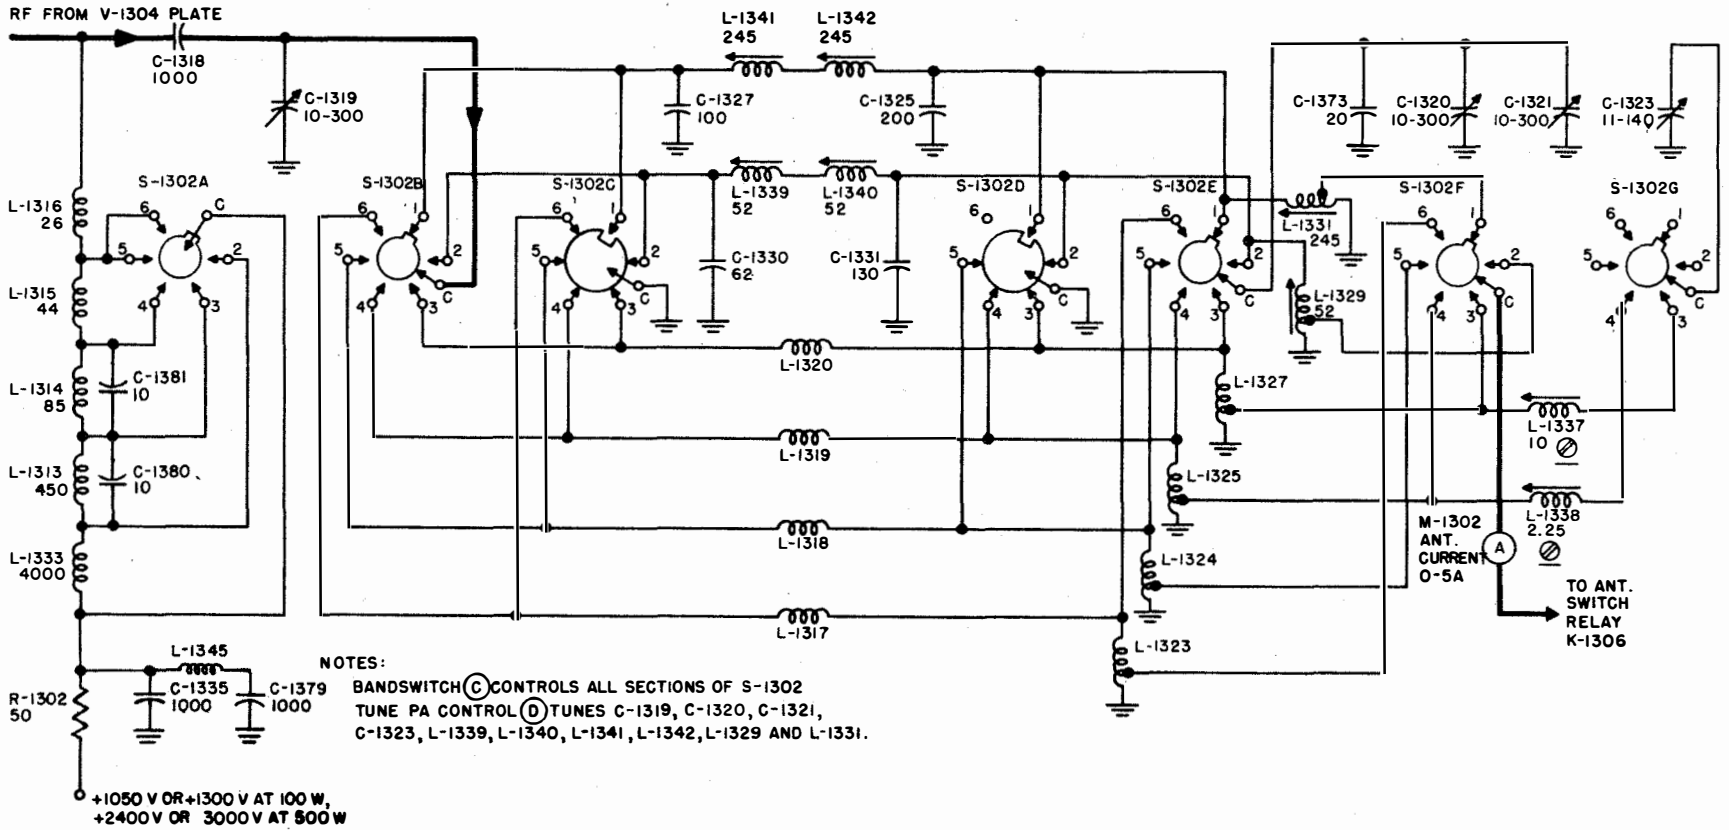
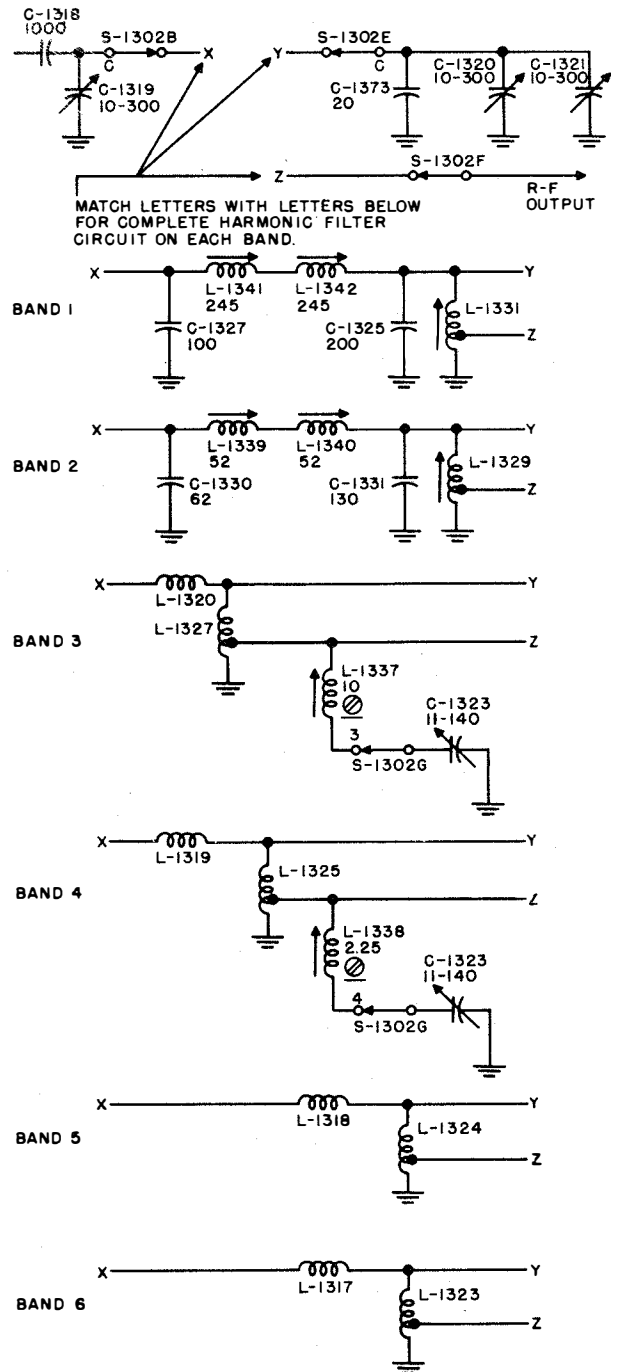
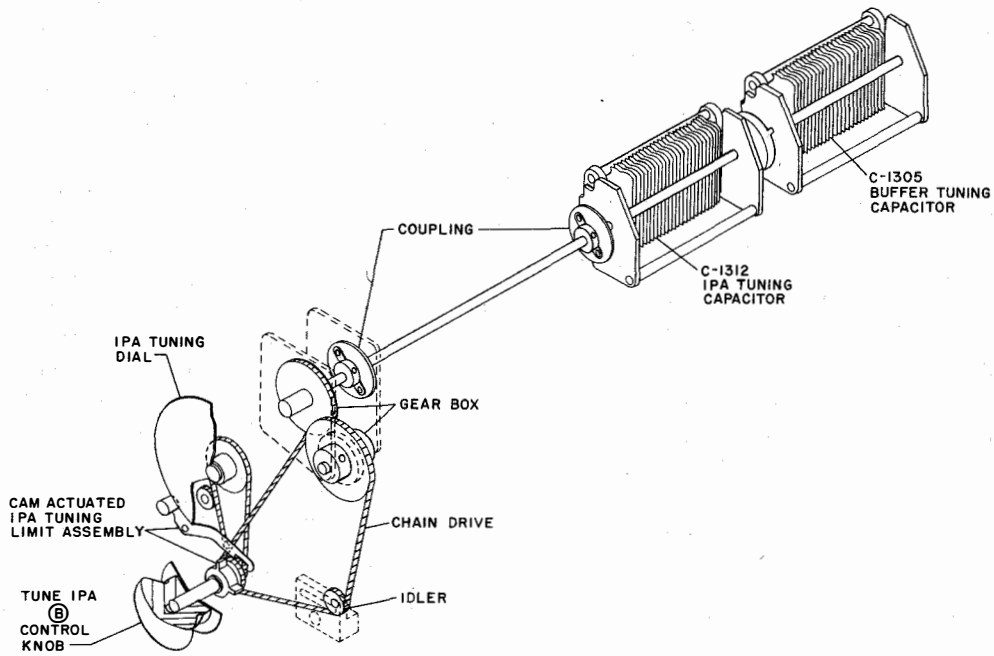

Figure 2-101. PA Harmonic Filter, Complete Schematic
Figure 2-102. PA Harmonic Filter, Simplified Schematic
Figure 2-106. Buffer-IPA Tuning, Mechanical Linkages
(4) PA HARMONIC FILTER.—The output circuit of the power amplifier, V-1304, is essentially a harmonic filter (figures 2-101 and 2-102). The components of this filter are determined by the setting of the bandswitch, S-1302, which is ganged to the IPA buffer bandswitch, S-1301, both of which are set by the BANDSWITCH control (C). Bandswitch S-1302A selects the r-f chokes in the PA plate supply circuit. To keep the signal level constant for all frequencies, more inductance is required at the lower frequencies; therefore, on band 1, all the chokes, L-1333, L-1313, L-1314, L-1315, and L-1316, are connected in series in the PA plate circuit. On band 2, L-1333 is shorted. On band 3, L-1313 and L-1333 are shorted, etc., until, on bands 5 and 6, only L-1316 is in the circuit. Switch sections S-1302B and S-1302E select the required tuning inductors, while S-1302C and S-1302D short out the unused tuning inductors. Switch section S-1302E also selects the required antenna matching inductor and connects tuning capacitors C-1320 and C-1321 in parallel with it. Switch section S-1302F couples the output from the impedance matching network to the load adjusting unit. Section S-1302G adds additional impedances to the antenna matching inductor in bands 3 and 4 to form the correct matching network. The effect of the various selections of switch S-1302 is to produce a pi-section filter and output impedance matching network. Figure 2-102 shows the make-up of the filter and matching network for each of the six bands. After the proper components of the filter have been selected, the filter is tuned to maximum output with the TUNE PA control (D). This con-
g. BUFFER-IPA TUNING.—When bandswitching is completed, the buffer and IPA tank circuits must be tuned for maximum output. The shaft of the TUNE IPA control ⓑ (figure 2-106) is coupled by chain drive to the dial mounted behind the IPA window. Another chain drive connects the control shaft to a gear box. In the gear box the rotary motion is reversed and a 2-to-1 reduction is introduced. The gear box, in turn, is coupled to the shafting on which is mounted the buffer tuning capacitor, C-1305, and the IPA tuning capacitor, C-1312. The TUNE IPA dial is calibrated from 0 to 100 to indicate whether the tuning capacitors are at the low end (maximum capacity) of the band, the high end (minimum capacity) or at some intermediate point. The dial is notched at the high and low limits of tuning so that the limit cam falls in the notch at the limits. The action of the cam falling in the notch causes the limit assembly to lock the shaft of the TUNE IPA control ⓑ. Maximum tuning of the buffer and IPA is indicated by maximum PA grid drive as shown by a maximum reading on the PA CURRENT meter, M-1303 (figure 2-102), with the PA-METER SELECTOR ⓓ in the I_{c1} position. In tuning, two peaks may be noted on M-1303. The tuning should be set to the maximum at the lowest TUNE PA dial reading to insure that the tuning is to the fundamental frequency and not a harmonic.